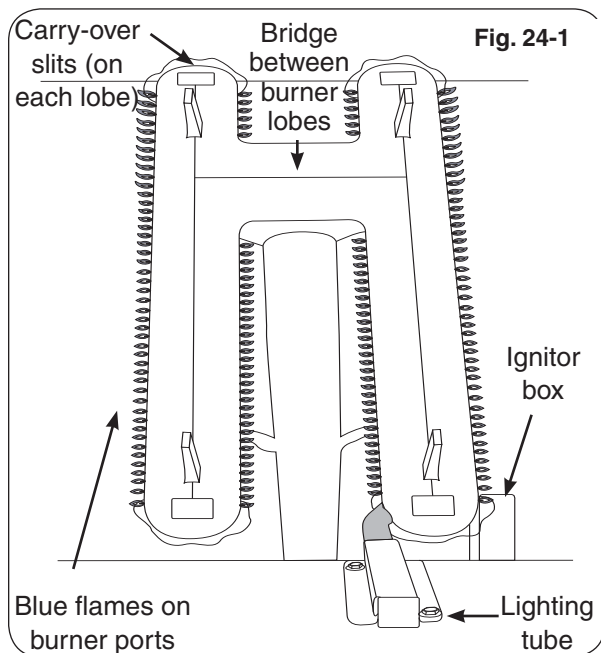

Fig. 24-1
Flames from a properly adjusted main burner with no wind or breeze present will appear fairly steady, consistent, and mostly blue. If the tip of a flame were to turn orange, it should only do so briefly and then become blue again. The flames will appear to burn while touching the burner ports (see Figure 24-1).
5. Repeat steps 1-4 until the flames appear to touch the burner ports, burning fairly steadily and mostly blue (see Fig. 24-1).